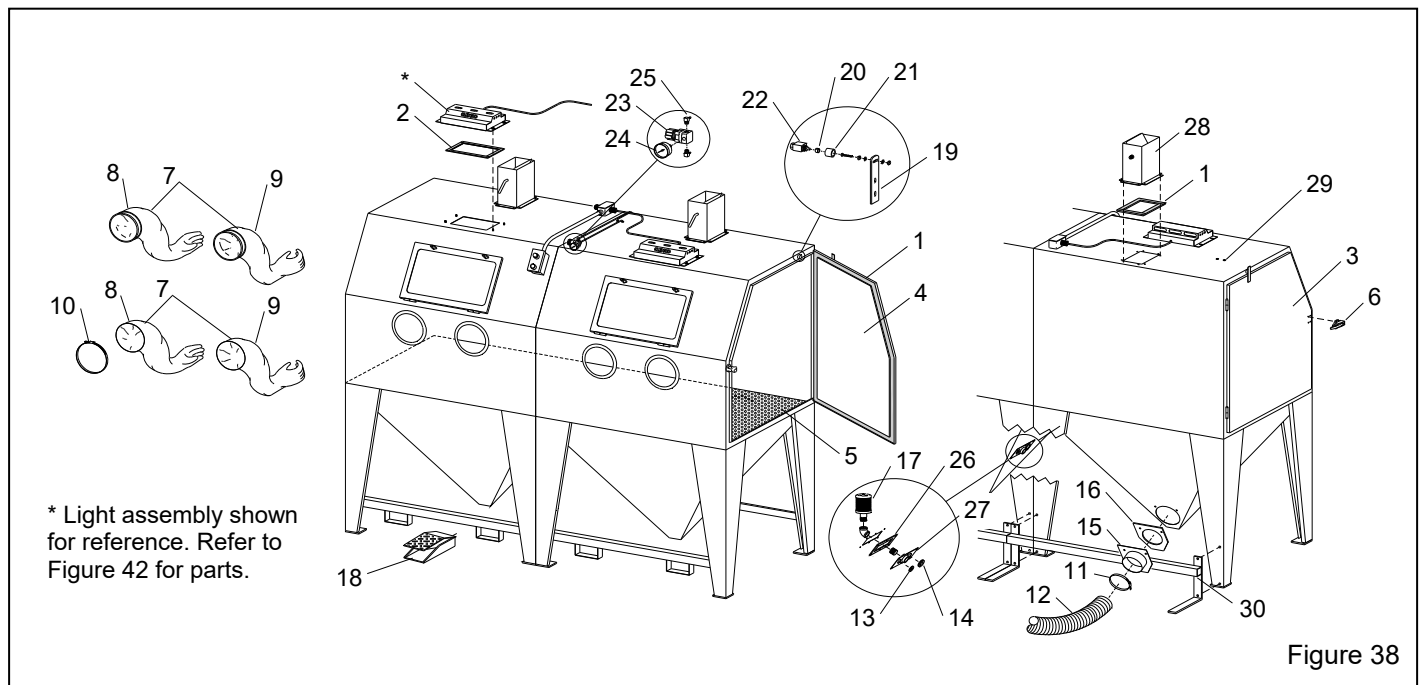

Figure 38
9.2 Cabinet Replacement Parts – Figure 38